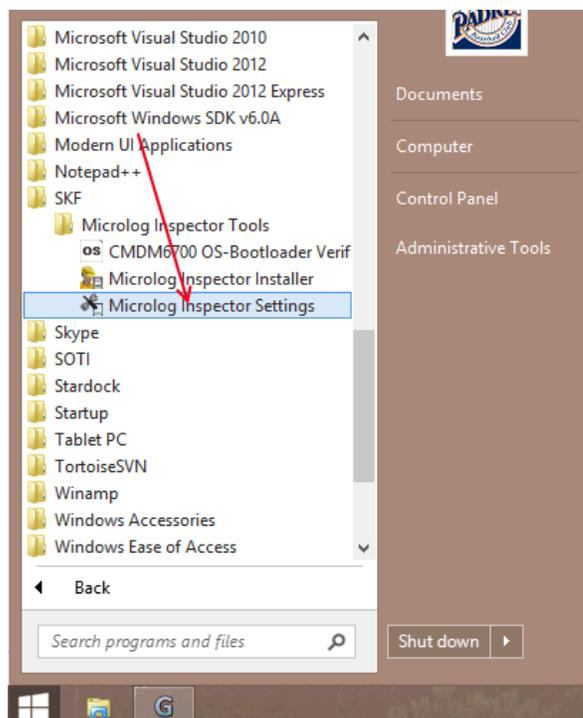

Figure 1. Microlog Inspector Settings
1. Go to **Start > Programs > SKF > Microlog Inspector Tools > Microlog Inspector Settings**. [Figure 1]